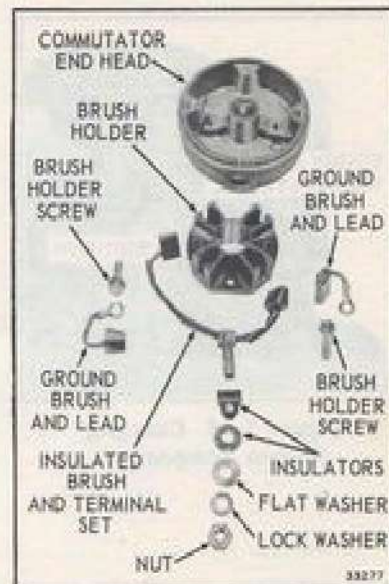

Figure 7-14. Commutator End Head Components
d. Install insulated brush and terminal set in commutator end head with long lead in slot. See Figure 7-14 and 7-14A.